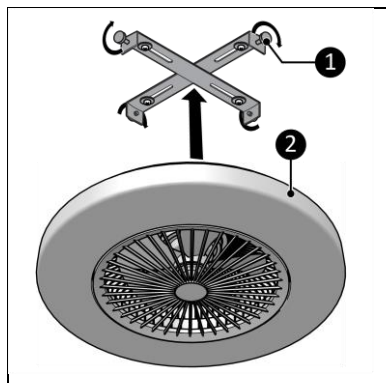

Figure 10
9. Use the side screws (Figure 10, pos. 1) to attach the fan (Figure 10, pos. 2) to the suspension bracket.